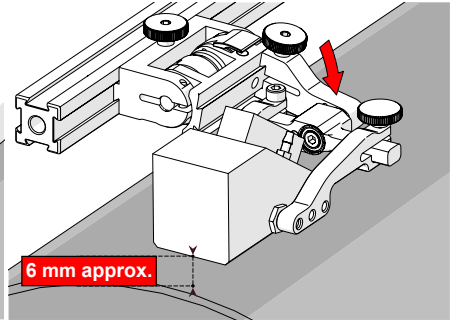

Fig. 159 - Lower to scanning surface
2. Push the probe holder yoke down toward the inspection surface until the wedge is approximately 6 mm ($\frac{1}{4}$ in) above the inspection surface (Fig. 159).